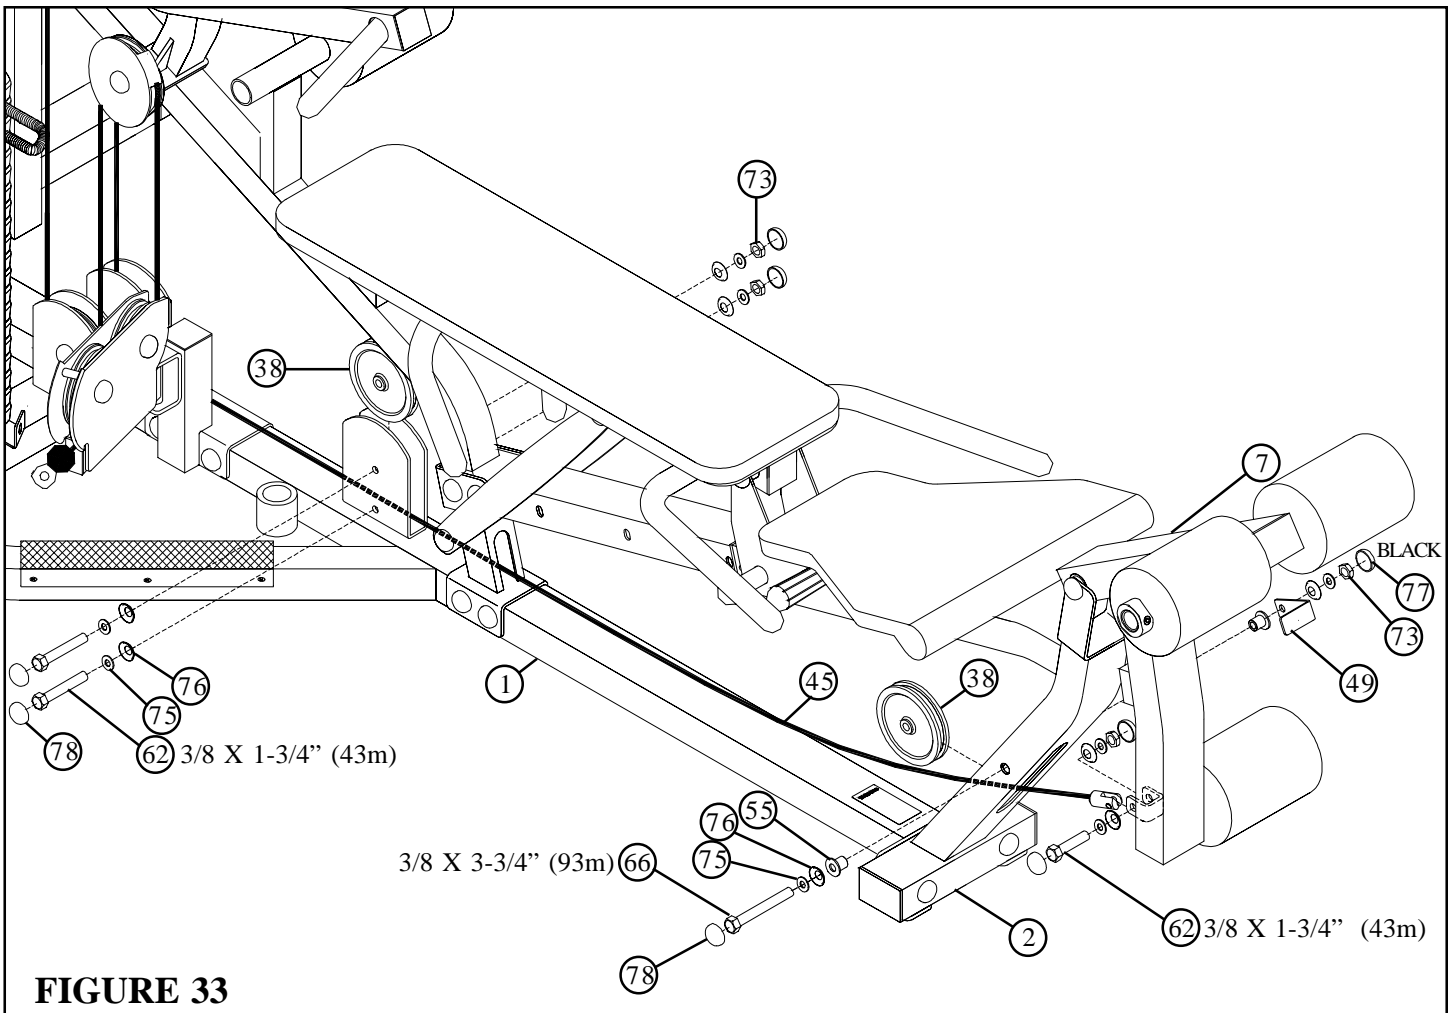

FIGURE 33
- Route the LEG CABLE (45) through the bracket on the BASE (1) and assemble one 4-1/2" PULLEY (38) to the bracket on the BASE (1) using four RH CAPS (78), two 3/8 X 1-3/4" BOLTS (62), four 3/8" SAE WASHERS (75), four 3/8" RH WASHERS (76) and two 3/8" LOW HEIGHT LOCK NUTS (73) as shown in FIGURE 33.
- Route the LEG CABLE (45) through the BENCH FRAME (2) and assemble one 4-1/2" PULLEY (38) to the BENCH RAME (2) using one RH CAP (78), one BLACK RH CAP (77), one 3/8 X 3-3/4" BOLT (66), two 3/8 X 1" FLANGE SPACERS (55), two 3/8" SAE WASHERS (75), two 3/8" RH WASHERS (76), one CABLE CLIP (49) and one 3/8" LOW HEIGHT LOCK NUT (73) as shown in FIGURE 33.
- Assemble the swivel end of LEG CABLE (45) to the PEDESTAL (7) using two RH CAPS (78), one 3/8 X 1-3/4" BOLT (62), two 3/8" SAE WASHERS (75), two 3/8" RH WASHERS (76), and one 3/8" LOW HEIGHT LOCK NUT (73). See FIGURE 33.